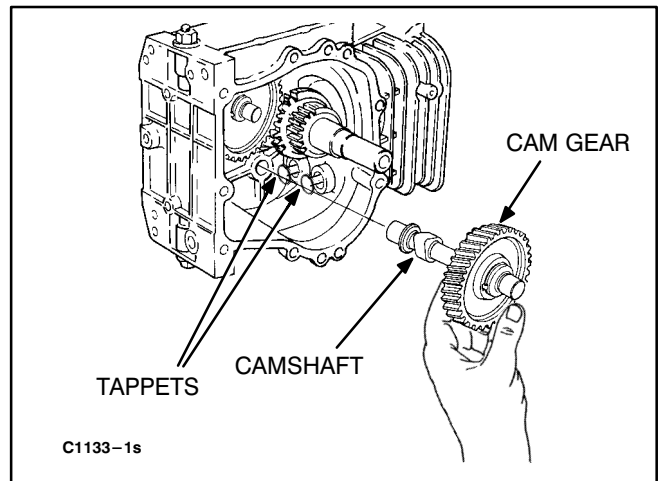

FIGURE 9-15. CAMSHAFT AND TAPPETS
1. Place the engine cylinder down on a clean flat surface (Figure 9-15).